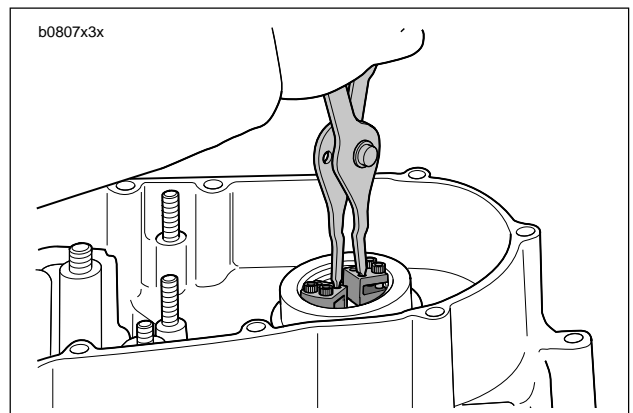

Figure 3-79. Remove Snap-Ring From Crankcase Bore
- e. See Figure 3-79. Inserting the tips of a large retaining ring pliers (Snap-On PR-56A) into one hole in each claw, compress the retaining ring and remove it from the crankcase bore.